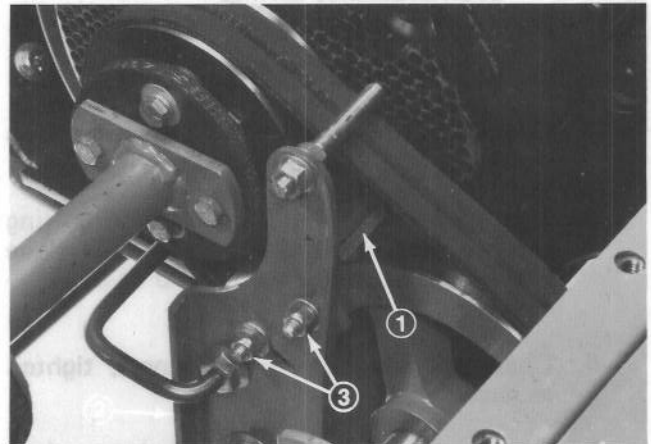

Figure 81
2. Inspect brake pad and lining assembly for excessive wear or damage (Fig. 81) and replace if necessary. Remove assembly by removing capscrews and flangenuts. (Fig. 81).
3. Reinstall brake pad and lining onto PTO brake assembly with capscrews and flangenuts and mount PTO brake assembly (Fig. 81). Install all mounting components in same location from which they were removed.
4. Align PTO brake assembly with pulleys and belts and tighten mounting fasteners. Visually inspect alignment of brake lining with pulley. Lining should be parallel to pulley and centered over pulley grooves. Loosen and remove PTO brake bracket fasteners and add or remove spacers between the bracket and mounting plate to achieve a parallel adjustment. Adjust the capscrews & flangenuts to center the lining assembly (Fig. 81).